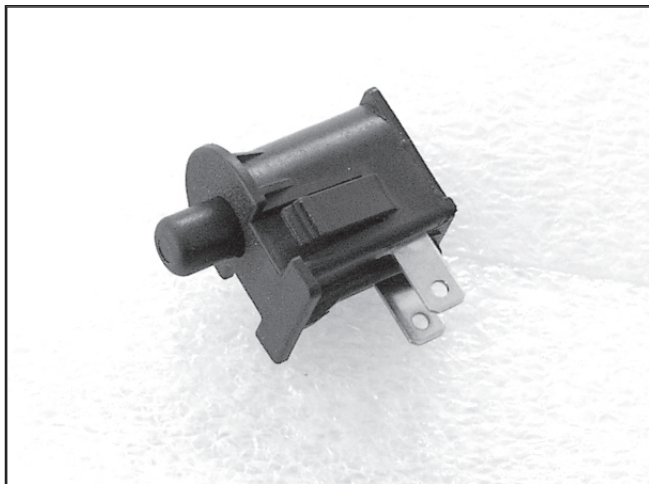

Figure 17
When the parking brake is latched, the plunger is depressed, closing the contacts (figure 17).
2. Use a ohmmeter to test continuity between the terminals (figure 17).